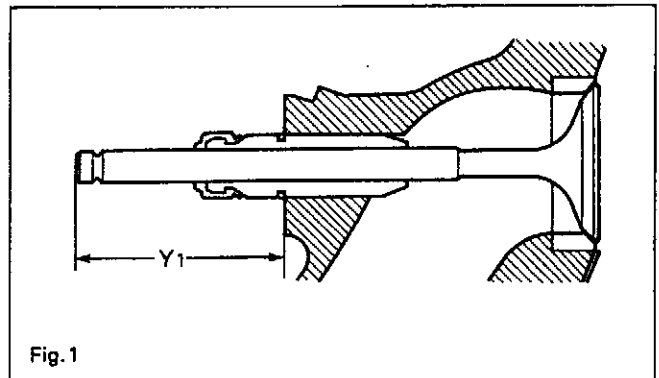

Fig. 1
- Set the valve to the cylinder head, and measure the length Y_1 , as shown in the Fig. 1.